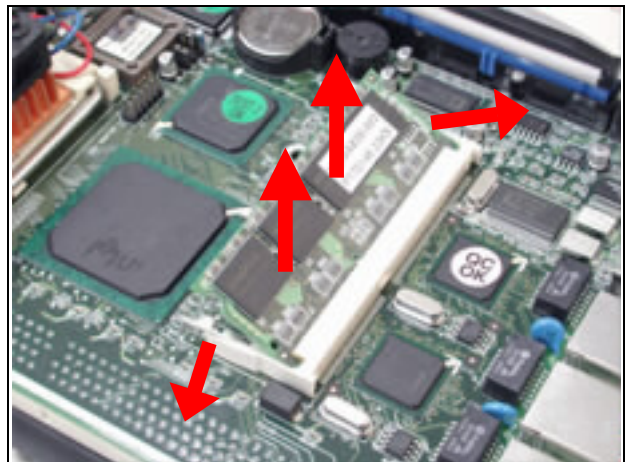

Fig. 2-14 Eject a SODIMM module
2. By pulling the arms, the SODIMM can eject itself (*Fig. 2-14*).